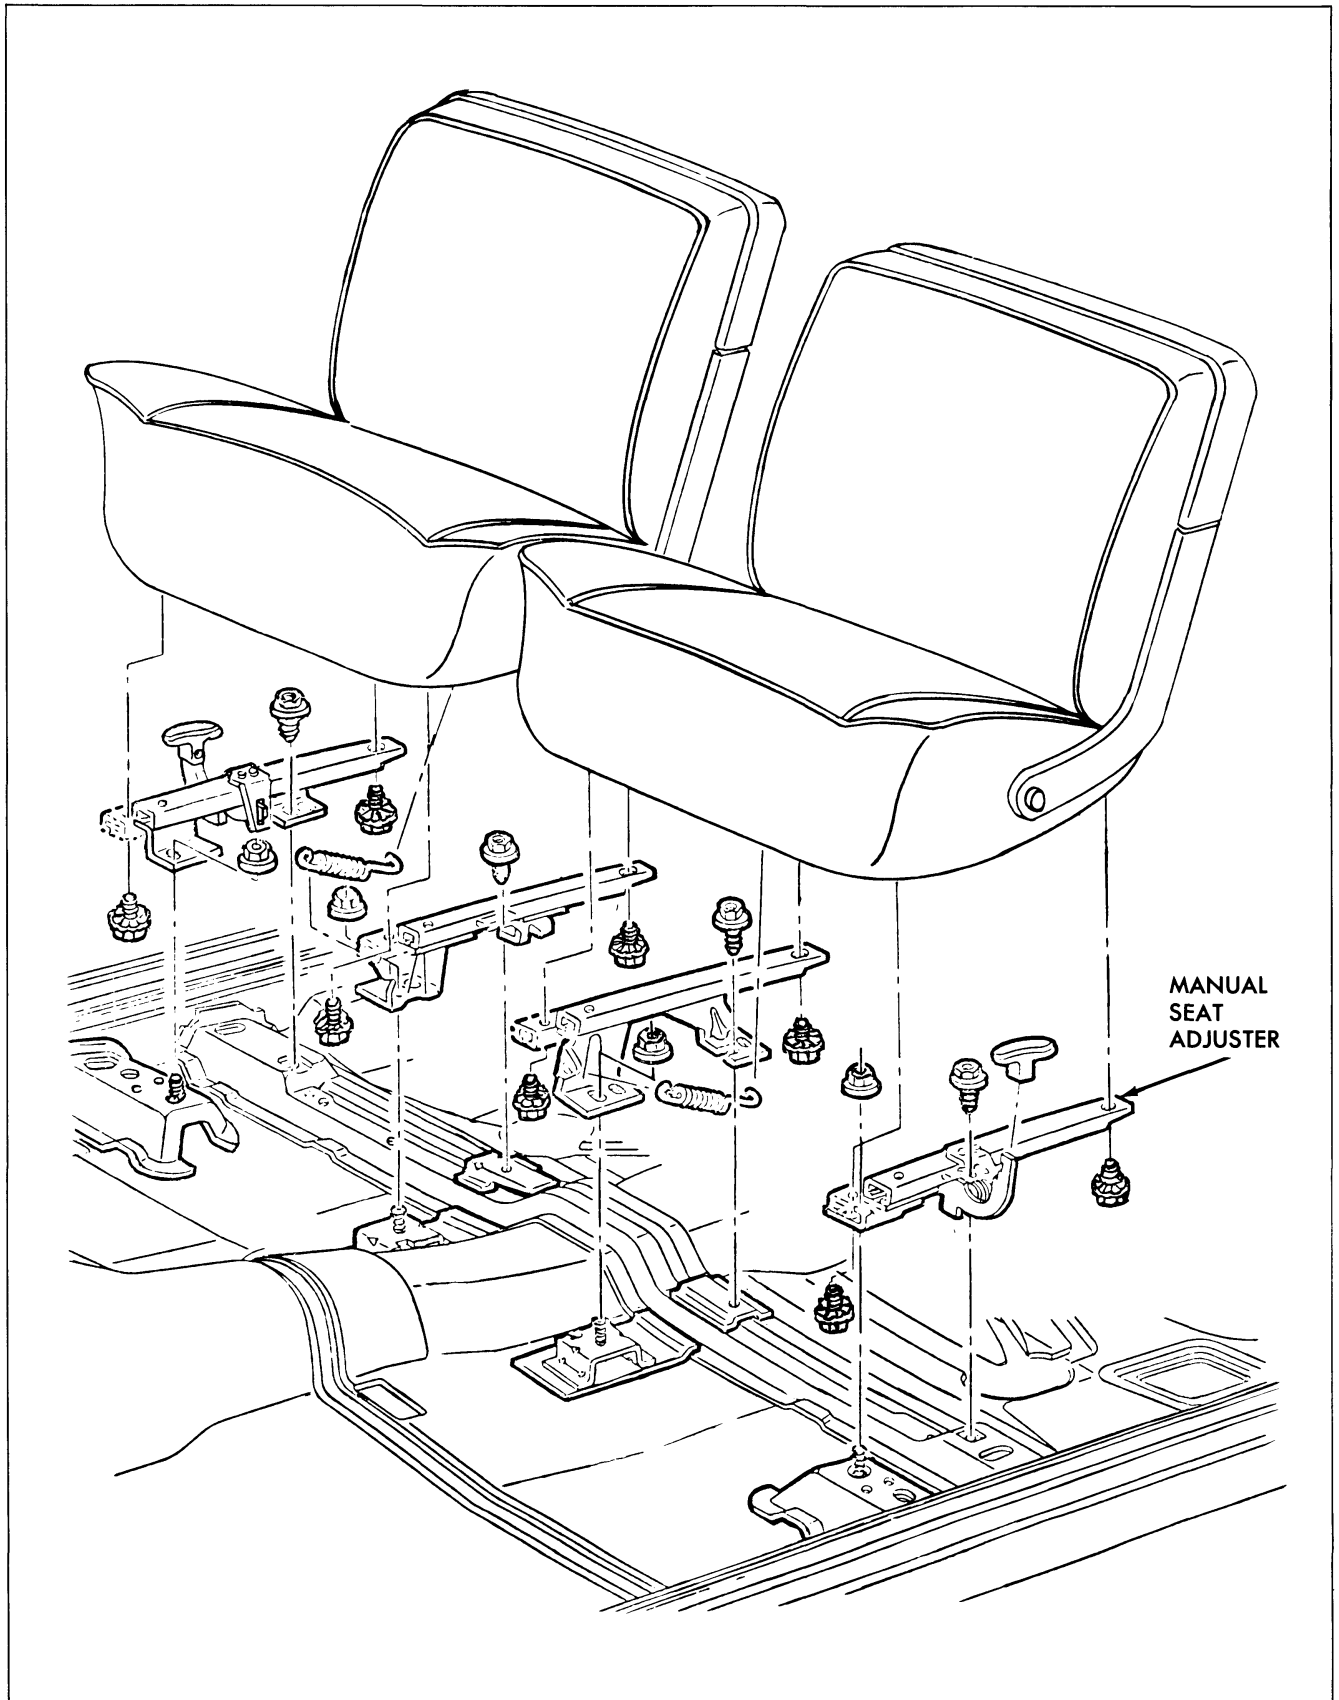

Fig. 22-2 Seat Back Removed
1. On all styles, using a flat-bladed tool, carefully remove retainer from outer hinge pin (Fig. 22-2).
2. Tilt seat back forward and remove retainer from inner hinge pin (Fig. 22-2).
5. To install, reverse removal procedure. Prior to installation of back, be sure inner and outer washers are installed over the hinge pins. (Fig. 22-2). In addition, inspect hinge arm retainer. If retainer is damaged, replace retainer with new part.